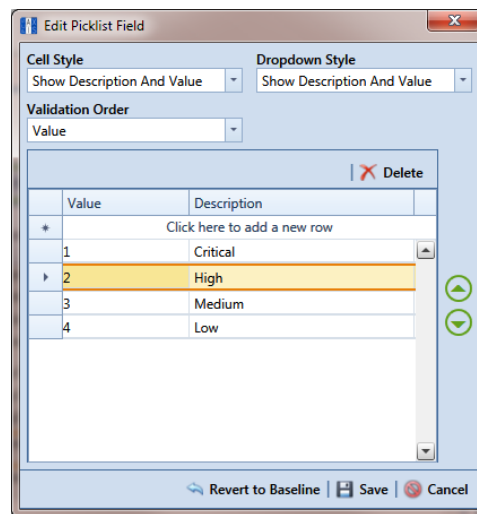

Figure 3-43. Edit Picklist Field
- Click the edit icon  again for the data entry field converted earlier to a *Standard Picklist* to open the *Edit Picklist Field* dialog box (Figure 3-43).
- a** Click the message *Click here to add new row* to add an empty row of fields for data entry (Figure 3-43, page 86).